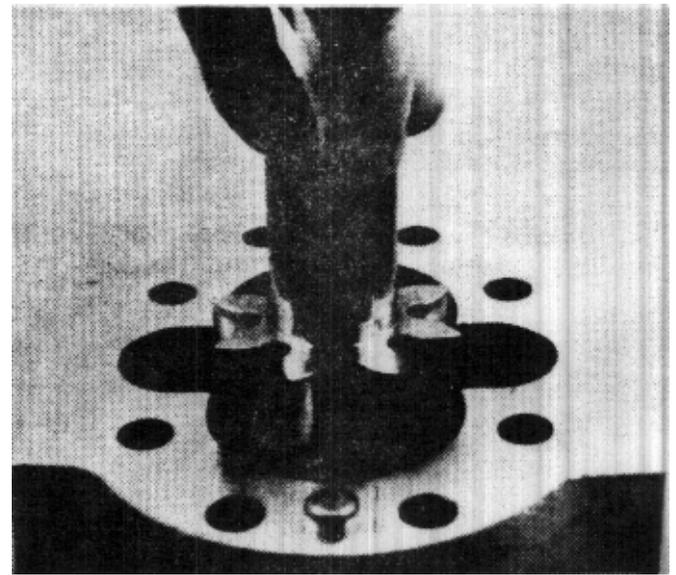

FIGURE 95
32. Install pressure plate (9) (13, in SPM25) with the bronze side up. Keep the plate as level as possible and slide it down to the bottom of the body. DO NOT FORCE THE PLATE.
33. Coat the journals of drive gear (6) with clean hydraulic oil and with the splined end up, insert it into the bore nearest you. DO NOT DROP IT INTO PLACE. Slide it into place gently. Dropping it will damage the bronze face of the pressure plate. (Fig. 95)
36. Install top pressure plate (9) (12, in SPM25) with the bronze side down.